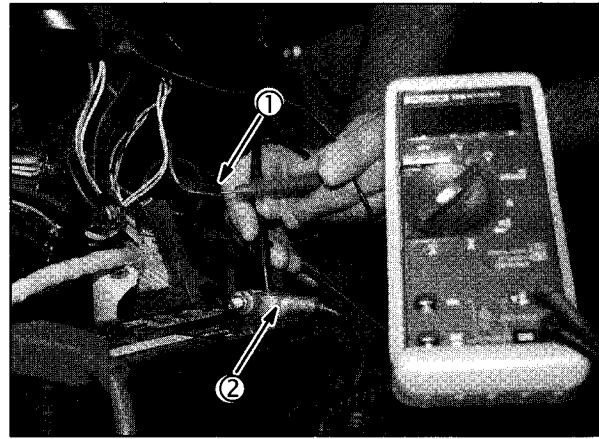

Fig. 36
3. Insert RED meter test lead into the brake interlock switch wire connector (1), **Fig. 36**.
4. Attach the BLACK meter test lead to the NEGATIVE battery terminal (2).